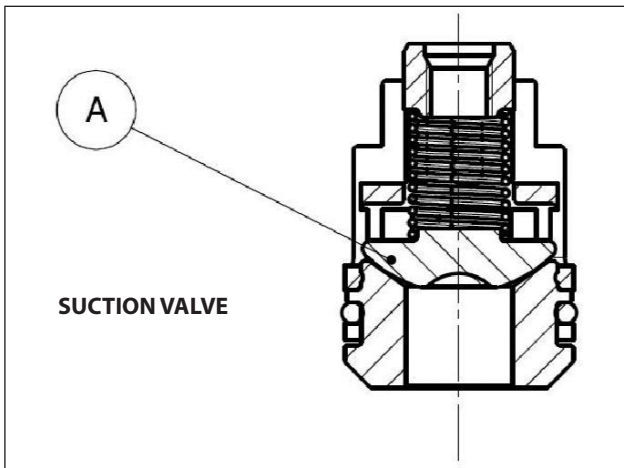
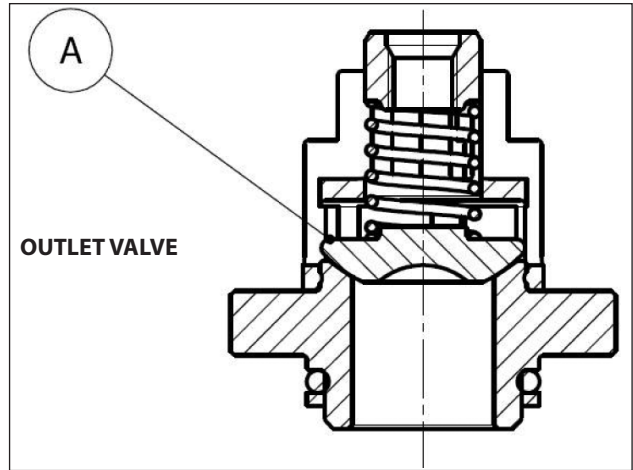

Fig. 26
Fig. 27
2. On the HF18 version, moreover, take care not to reverse the suction ball valves with the outlet valve "A" (Fig. 26, Fig. 27), exploded view pos. 46 as indicated in chapter 16 of the *Use and maintenance manual*.